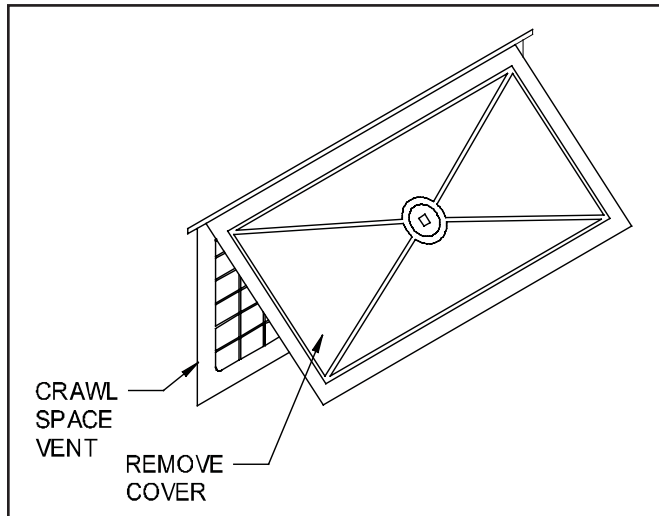
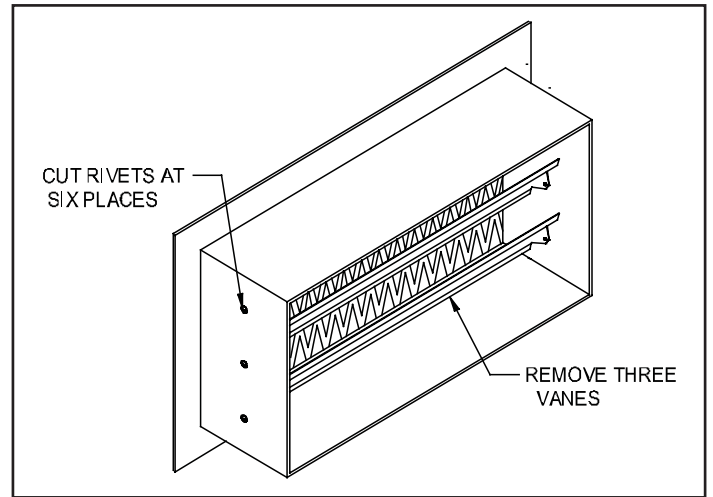

Figure 1
Figure 2
1. Remove any manual covering door on the crawl space vent where the unit is to be installed. (See Figure 1) If plastic automatic vents are used, remove the closure vanes before installing fan onto vent. (See Figure 2)